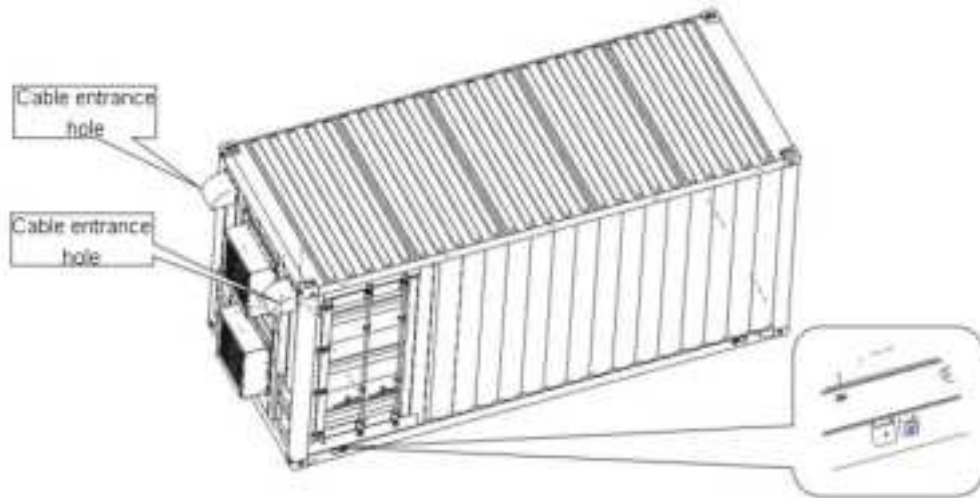

Figure 6-14 Cable entrance holes (under the rain cover)
- a) Connect the cable from the upper two holes on the side of the container exhaust fan. Specific location is shown in Figure 6-14 (Note: Use the rain cover in the accessory for protection). The cable is connected from the top wiring box of the two power distribution cabinets, extends to the corresponding copper block, and is fixed with screws.
- b) There are grounding studs on both sides of the container. Ensure that the shell of the container is reliably grounded. At least two diagonal corners of the container should be reliably grounded. Specific location is shown in Figure 6-14.